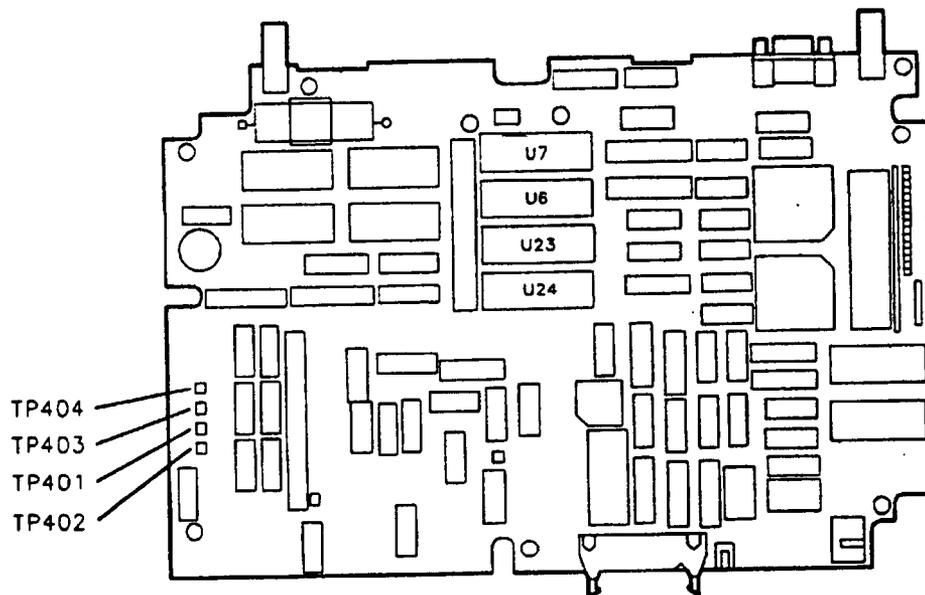

Figure 2-1. A16 Power Supply Test Point Location
2. Connect the DMM test leads from the chassis (ground) to A16TP403. See Figure 2-1.